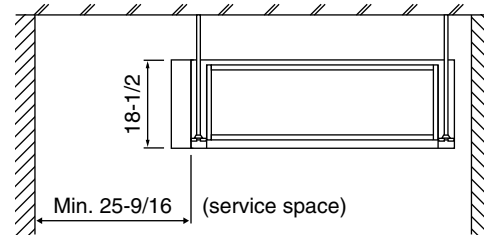

Fig. 1 (length: in.)
- (1) Select an installation site where the following conditions are fulfilled and that meets with your customer's approval.
- Where sufficient clearance for maintenance and service can be ensured. (Refer to Fig. 1)